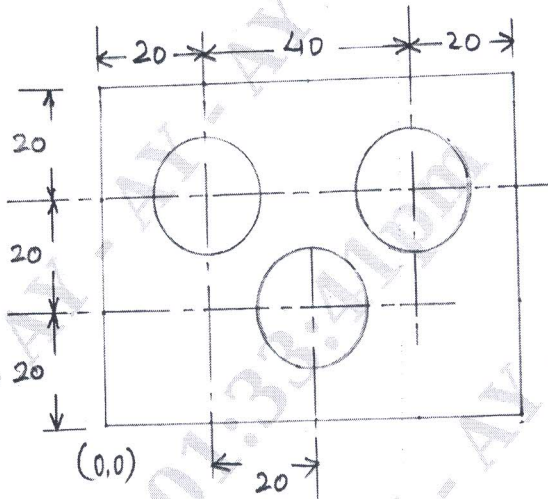

Fig Q10(b)
b. Prepare the manual part programming to drill the holer for the part shown in Fig Q10(b)